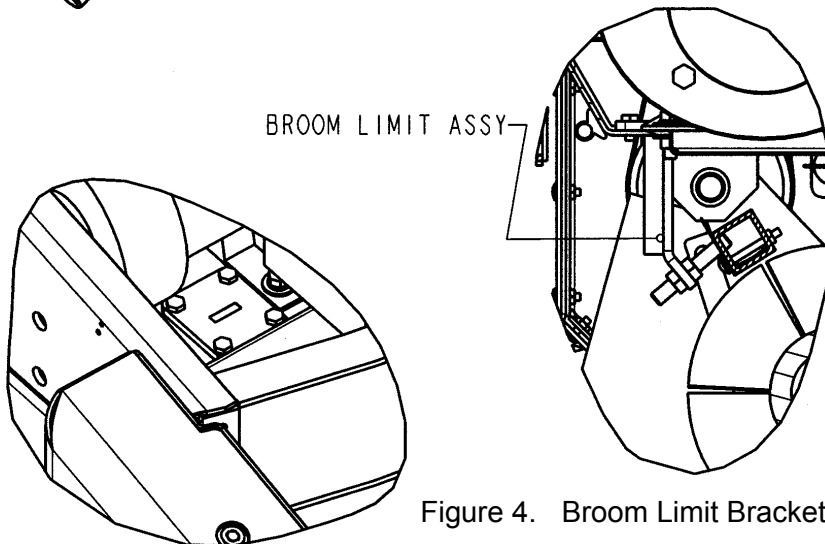

Figure 4. Broom Limit Bracket Assembled
4. Assemble Broom Limit Assy from previous step to Sweep System Plus using four 1/4 -20 Hex Bolts (Item 3, Figure 1) as shown in Figure 4.